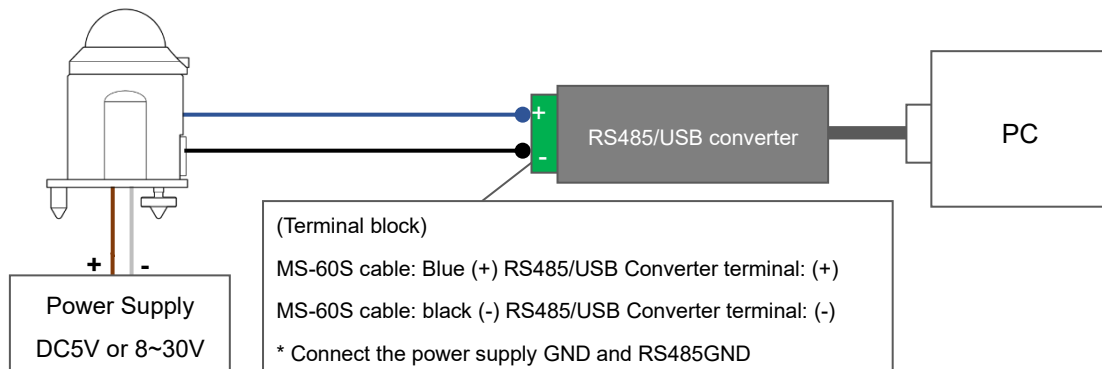

Figure A3-1. Hardware preparation
- 3) Connect the power lines of the signal cable to the power supply (DC5V or 8 to 30V) and turn on the power supply.(Refer to Figure A3-1.)